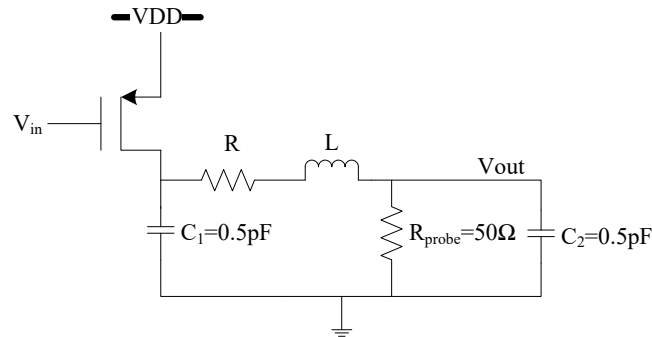

Figure 11 PMOS Open Drain Driver
- In a digital circuit, an open drain PMOS transistor functions as a buffer to drive a 50Ω testing probe as shown in Figure 11. The testing probe provides a 50Ω termination with respect to ground. The output pad and pin parasitic capacitance can be estimated to be 0.5pF each. Assuming 3mm bond wire, the bond wire parasitic resistance and inductance are $1\Omega/\text{mm}$ and $1\text{nH}/\text{mm}$. For 90nm technology, please use nominal 1.1V supply.